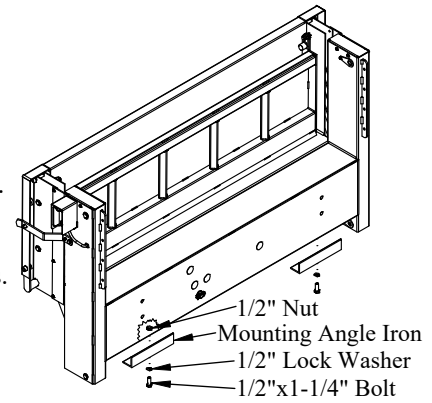

Figure 17: Mounting angle iron location.
1. **Install** the two (2) mounting angle irons to the bottom of the liftgate (Figure 17).